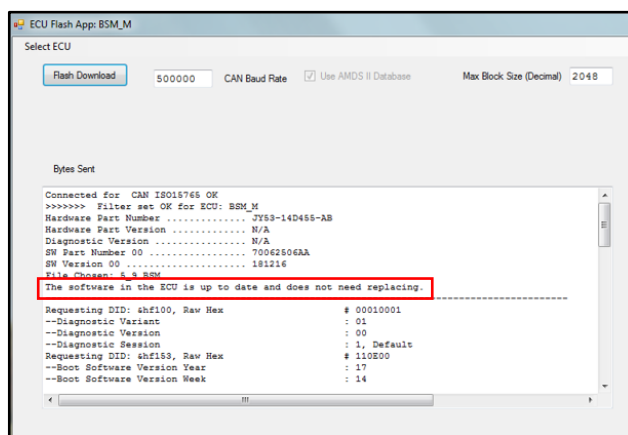

Figure 4
8. In the "ECU Flash App" window, check the BSM\_M module has the correct version of software installed (refer to Figure 4).